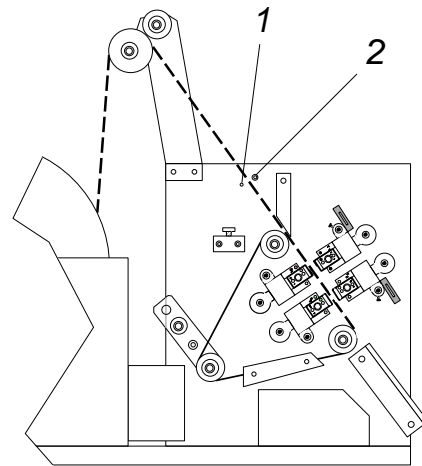

Figure 26 Electronic Component Counter Installation
1. Remove cap screw (Figure 26, Item 2).